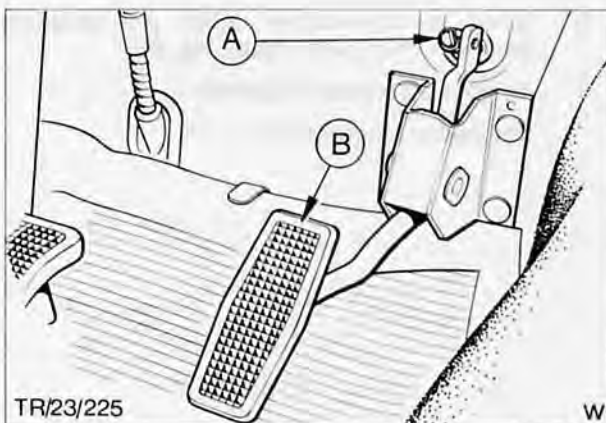

Fig. 82. Pedal shaft assembly
3. From inside vehicle prise off retaining clip and disconnect accelerator cable from pedal shaft, Fig. 82.